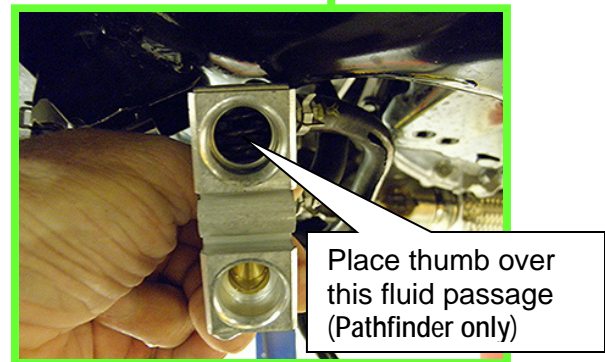

Figure 4
10. Slide a piece of 5/8 inch hose (16 mm) over the end of the CVT fluid cooler hose (Figure 4) that was used as the flush inlet.
11. Insert the tip of an air gun into the end of 5/8 inch (16 mm) hose (Figure 4).